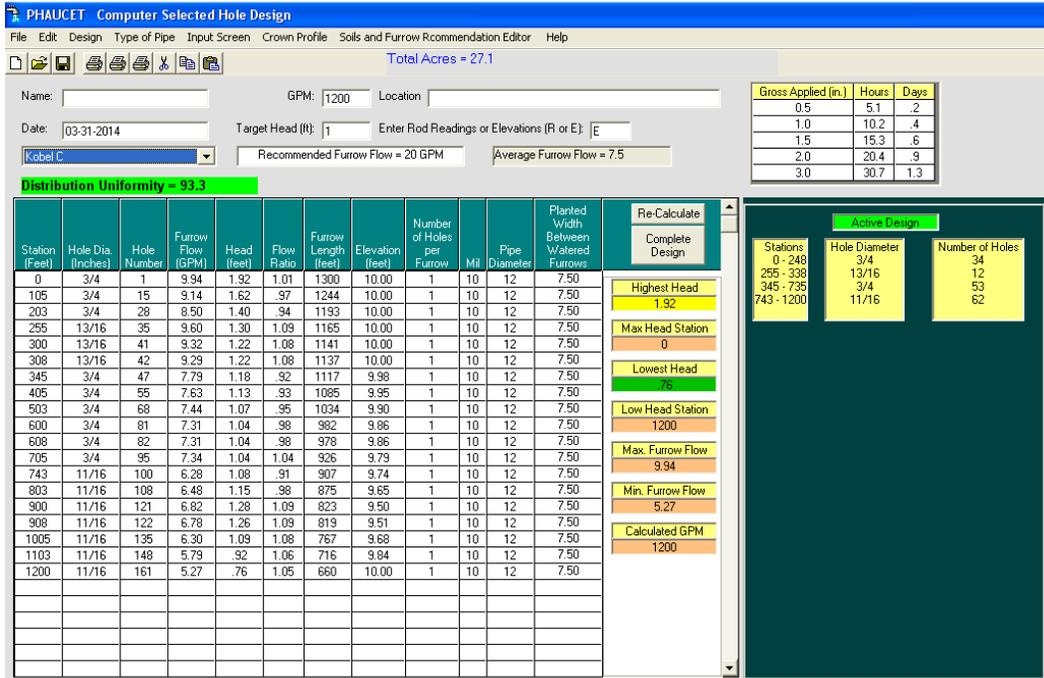

Figure 2.4 – Example 2 CSH Design
**STEP 2:** Select Computer Hole Selection design from the Design menu (fig. 2.4).